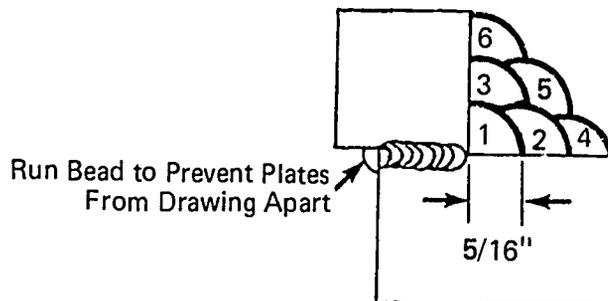

FIGURE 3
(NOTE: To prevent undue distortion, run one bead on opposite side before depositing remainder of beads on first side.) (Figure 3)
- I. Continue running beads until joint is filled using sequence shown in Figure 3